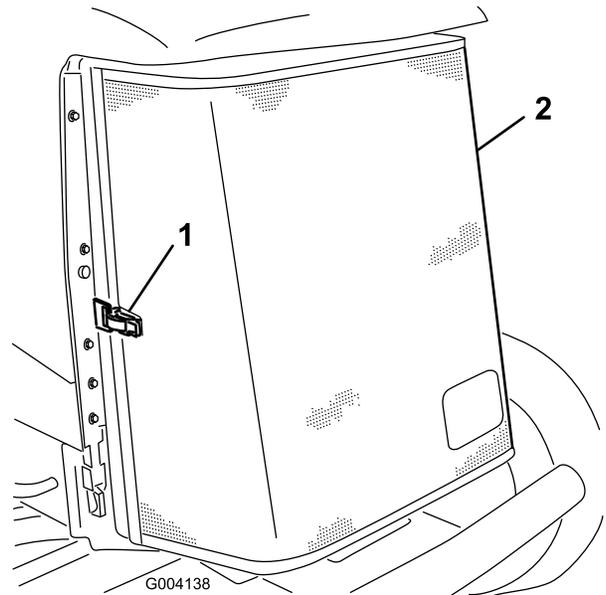

Figure 110
5. Unlatch the rear screen and pivot it open (Figure 110).